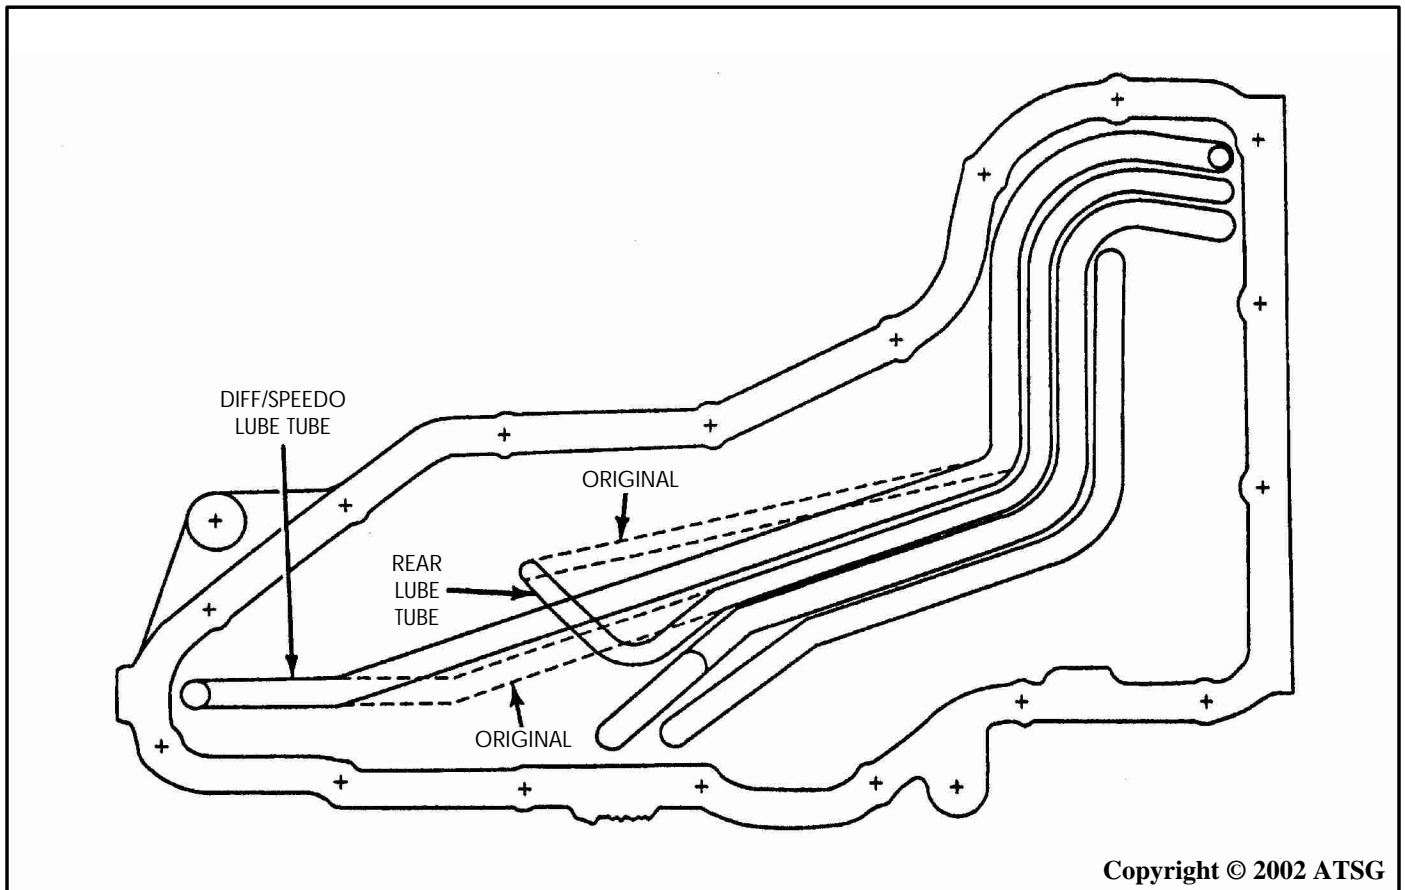

Figure 83
**CORRECTION:** Install a new design "Cross-over" rear lube tube and a new design Differential/Speedo lube tube, that will increase the volume of lube oil to the front planetary system, as shown in Figure 83. This requires the rear lube tube to "Cross-over" the differential and speedo lube tube, as shown in Figure 83.